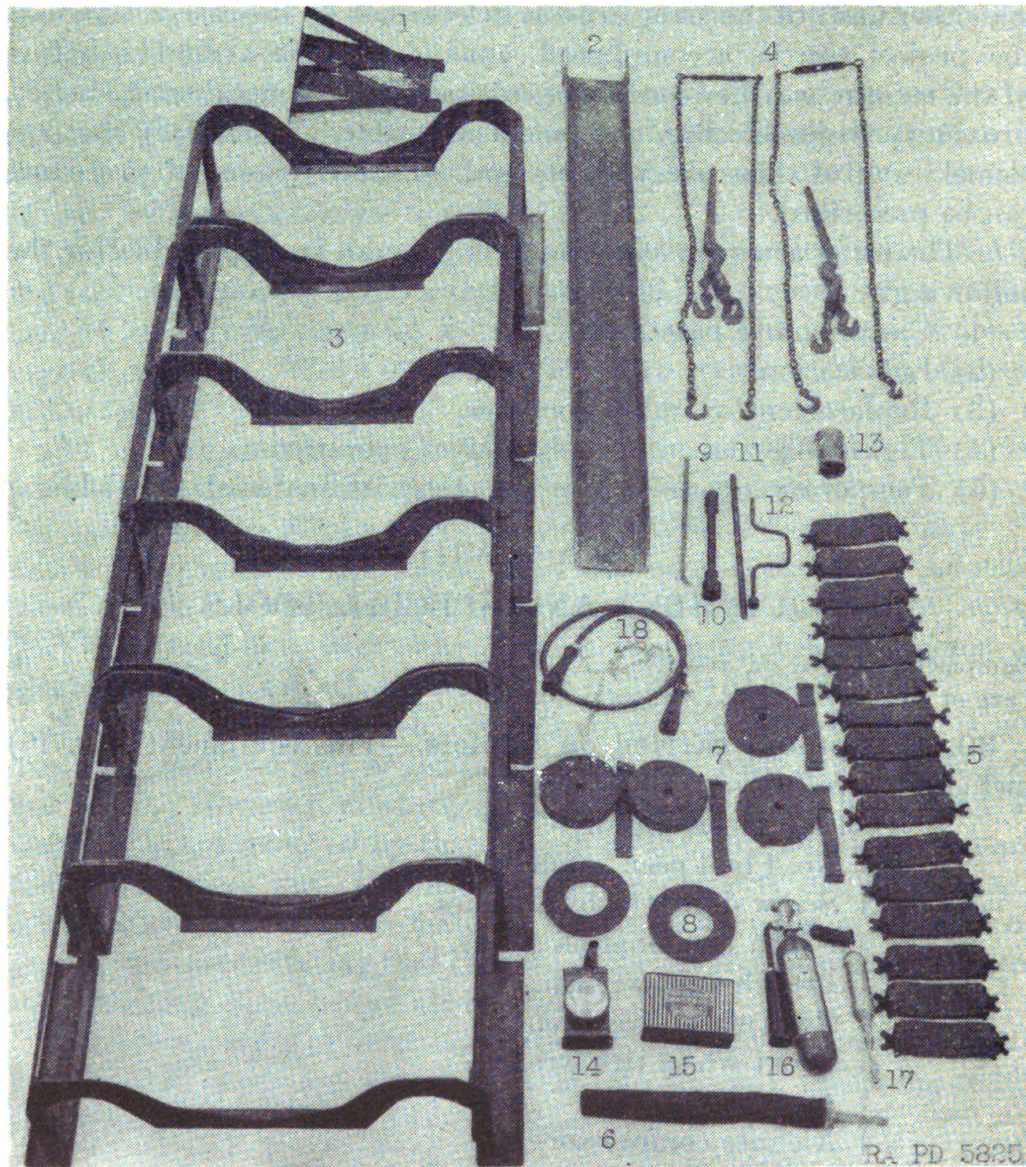

FIGURE 10.—Accessories for bomb trailer M5.
**30. Equipment carried on vehicle.**—This equipment (fig. 10) includes the following:
Key to Figure 10